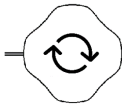

Fig. 12
- Slowly advance the pusher (P) and slowly retract the implantation catheter (IS). At this point you can see the final configuration of the Vet-PDA Occluder™ (D) (Fig. 12)
- Remove or cut the security seal (SS) from the release system composed of two rotating pieces (R).
- With one hand hold the release system firmly (R) and with the other hand turn the steering valve clockwise until you can see the release of the device (D). Fig. 12 – 15.
1. NOTE: Make sure the pusher (P) is as extended as possible when releasing the device (D).